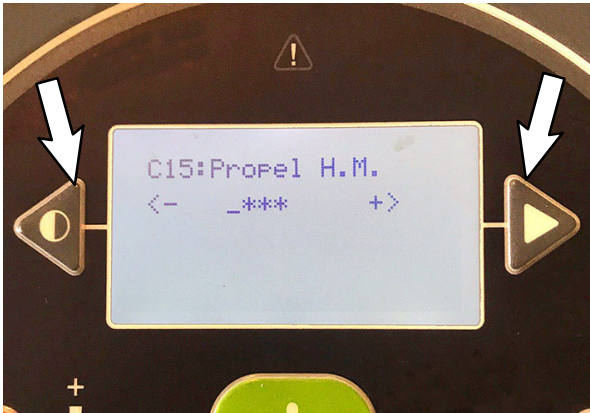

FIG. 29
4. Press either the right arrow button or the left arrow button to scroll to C15: PROPEL H. M. Press the main scrub brush pressure button to enter the C15: Propel H.M. Log in screen. (Fig. 29)